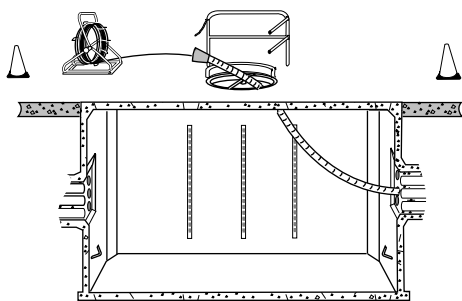

Figure 3 Rodding
3.2 Rodding or slugging may be required to verify duct suitability and accurate length (Figure 3). Cable cut length is especially critical when installing factory-connectorized cables.